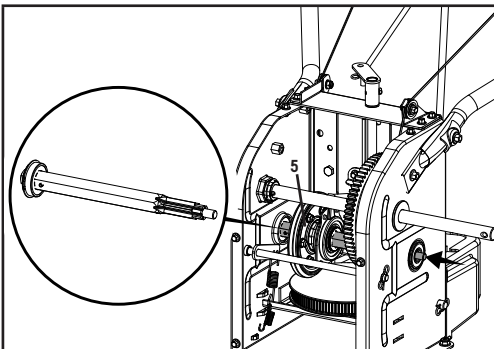

Figure 46
- Carefully position the hex shaft downward and to the left before carefully sliding the friction disc assembly (5) off the shaft (Fig. 46).